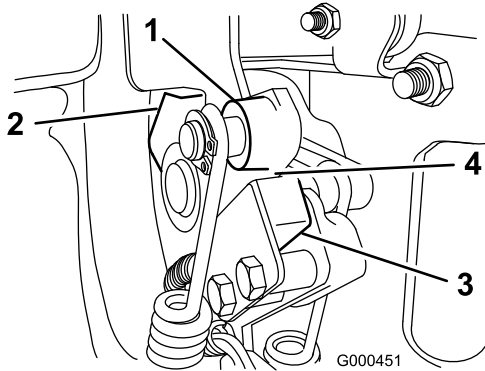

Figure 29
2. Engage traction lever until it contacts neutral stop (Figure 29).
3. Loosen interlock switch mounting fasteners (Figure 29).
4. Place a .032" thick shim between the traction lever and the interlock switch (Figure 29).